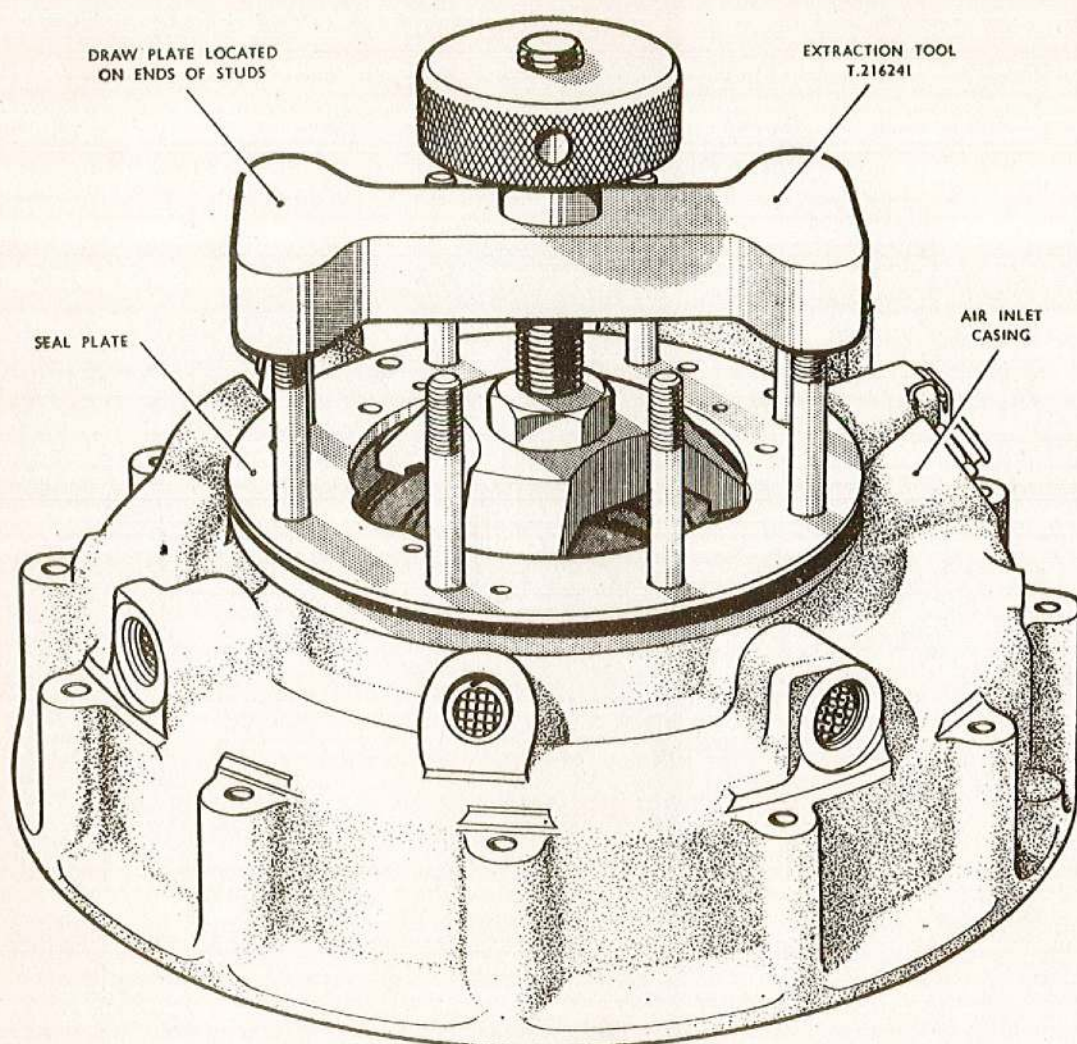

Fig. 13. Removing the fuel seal plate
60. Insert the lips of the extractor T.216241 through the slots in the internal flange of the fuel seal plate and turn the tool slightly to locate the lips behind the flange. Lower the draw plate over four of the studs on the air inlet casing and make sure that it seats correctly as shown in fig. 13. Turn the knurled nut to withdraw the fuel seal plate together with sealing rings from the air inlet casing.